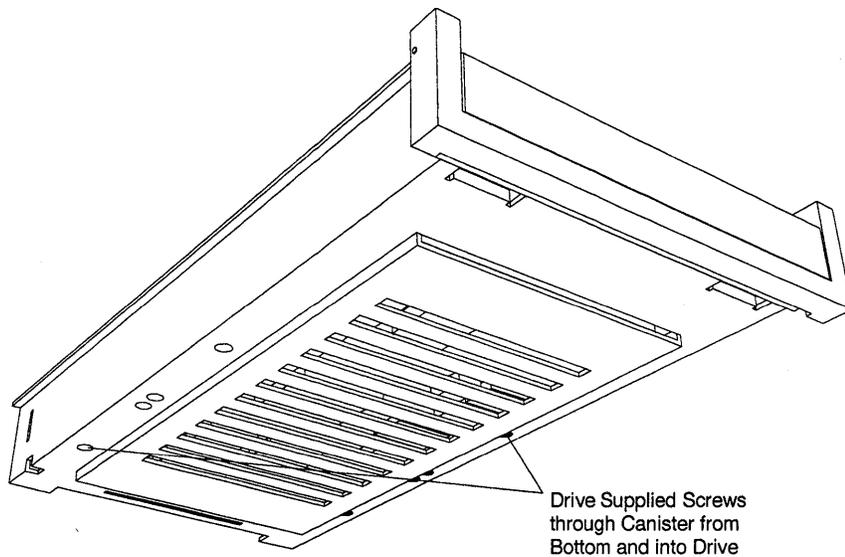

Figure 1-4: Securing drive to canister
- 6 Secure the drive in its tray with the supplied screws. Insert the screws through the bottom of the canister and into the mounting holes in the drive. See Figure 1-4.